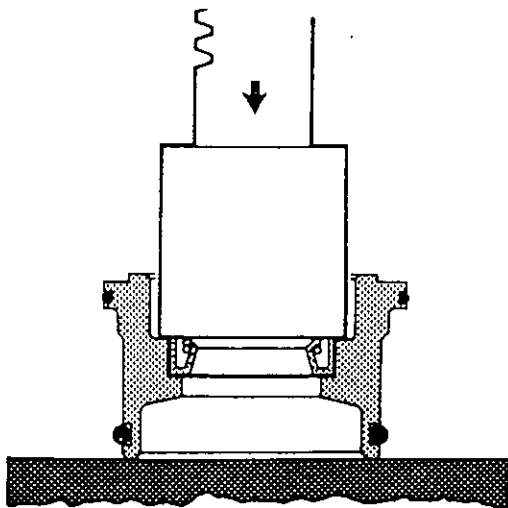

Figure 5.19
6. Install a new drive housing seal (13) and bearing retainer seal (16) on bearing retainer (14). Apply Lithium base general purpose grease to bearing retainer seal.
7. Install a new drive shaft seal (11) in housing retainer (14). Apply Lithium base general purpose grease to I.D. of seal. See Figure 5.19.